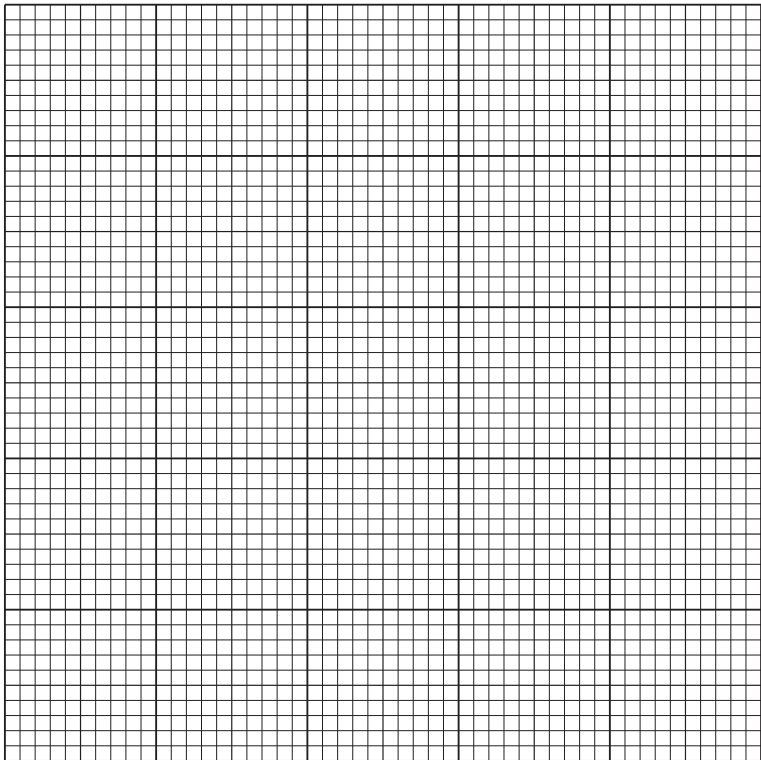

Fig. 1.2
(i) Plot a graph of the data in Table 1.3 on the grid in Fig. 1.2.
- (ii) Use your graph in Fig. 1.2 to determine the rate of reaction when the concentration of substrate is 0.45 mol dm^{-3} .
Using this information and the graph in Fig. 1.2, state whether the inhibitor is a competitive inhibitor or a non-competitive inhibitor.